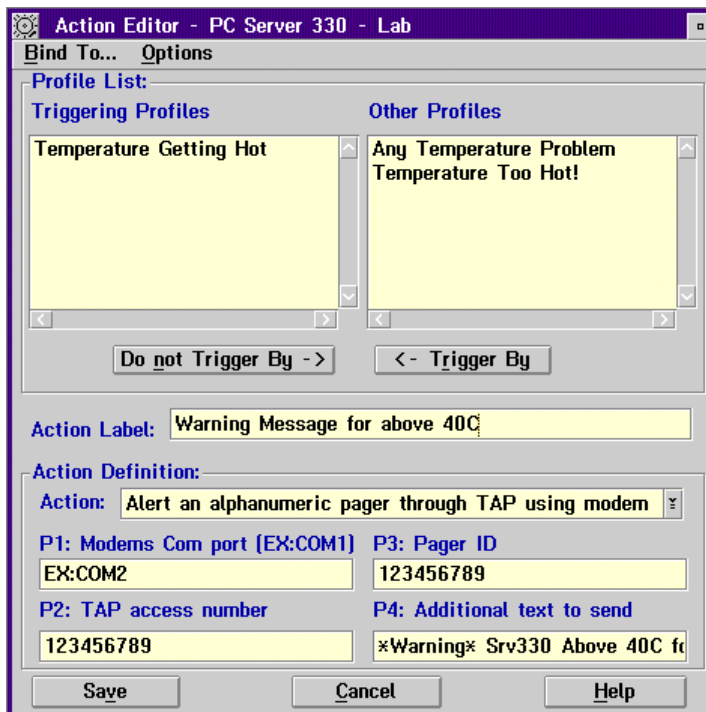

Figure 9: Profile Editor Setup for the 40°C setup
- Select the Triggering Profiles you want the action to be triggered by as per Figure 9.
4. Set up the Triggering Profiles and Action Definition as shown in Figure 9 for the first profile.